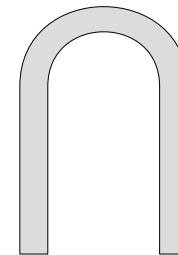

Figure 6: U loop.
- 6) Make five U shapes from R12 (that is 12 mm round steel bar) each piece 250 mm long as shown in Figure 6.